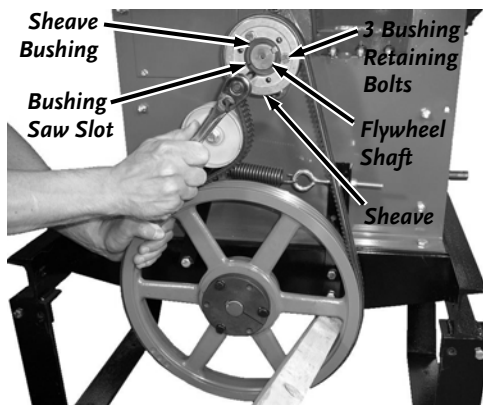

Figure 34
- a) Loosen the Sheave Bushing Bolt with a 7/16" Wrench (**Figure 34**).